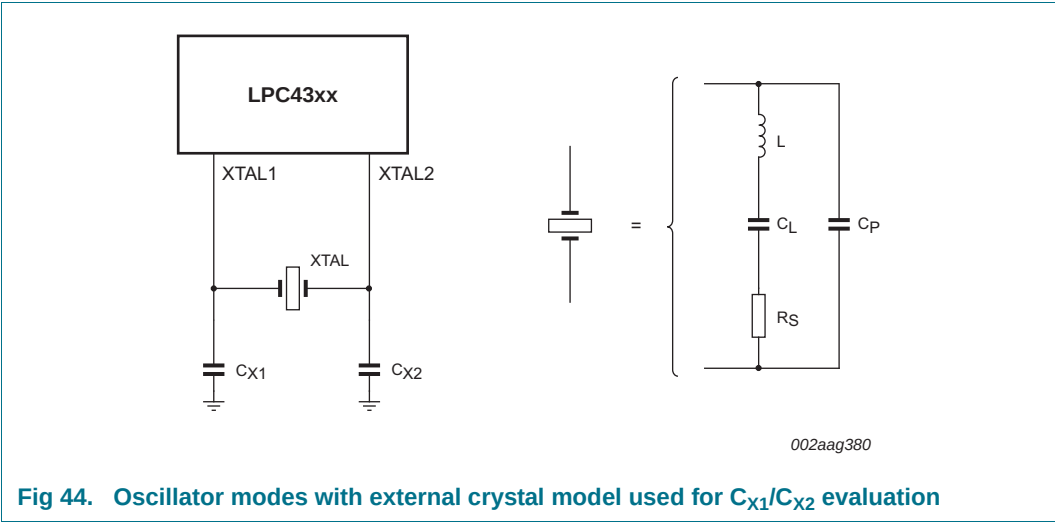

Fig 44. Oscillator modes with external crystal model used for C_{X1}/C_{X2} evaluation
- External components and models used in oscillation mode are shown in Figure 44, and in Table 42 and Table 43. Since the feedback resistance is integrated on chip, only a crystal and the capacitances C_{X1} and C_{X2} need to be connected externally in case of fundamental mode oscillation (L , CL and RS represent the fundamental frequency). Capacitance C_P in Figure 44 represents the parallel package capacitance and must not be larger than 7 pF. Parameters FC , CL , RS and CP are supplied by the crystal manufacturer.